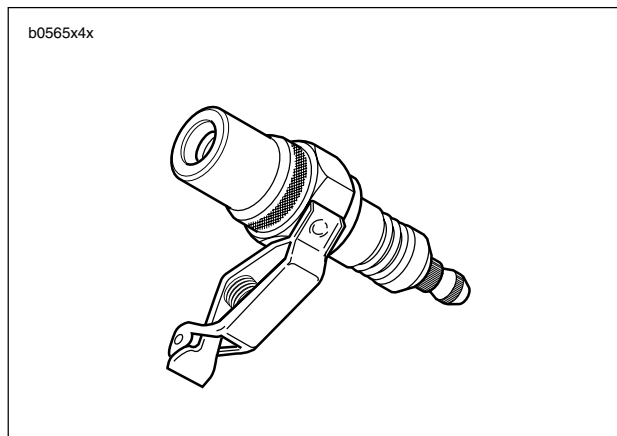

Figure 4-31. Spark Tester (Part No. HD-26792)
- See Figure 4-31. A SPARK TESTER (Part No. HD-26792) must be used to verify adequate secondary voltage (25,000 volts) at the spark plug.